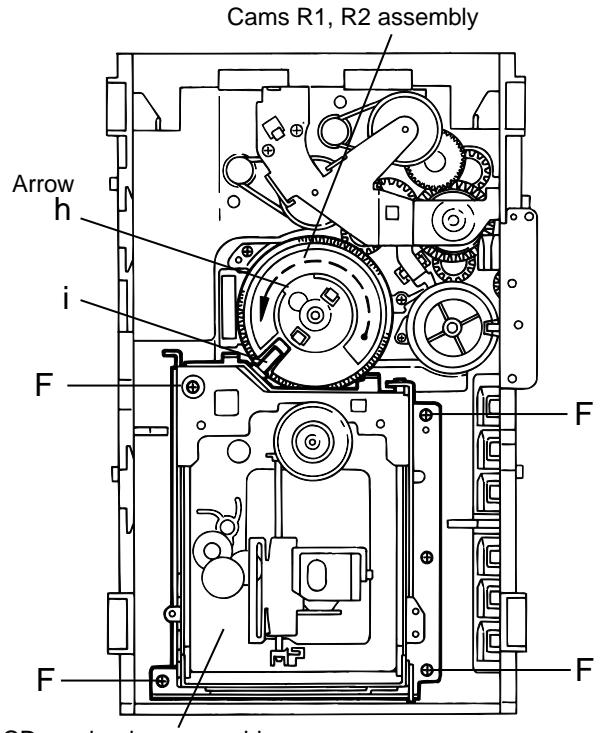

Fig.10
(See Fig.10)
1. While turning the cams R1 and R2 assembly in the arrow direction "h", align the shaft "i" of the CD mechanism assembly to the position shown in Fig.10.